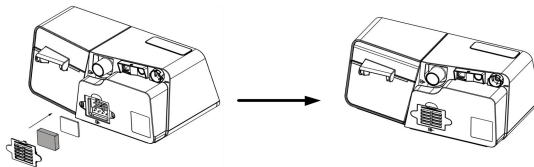

Fig. 18-9
(3) Install the filter cap containing the reusable air filter/disposable ultra-fine filter to the device, as shown in Fig. 18-9.